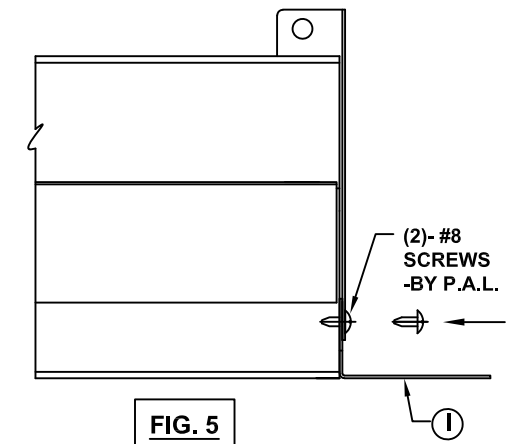

FIG. 5
ATTACH END TRIM (I) TO FIRST AND LAST (END OF ROW) FIXTURES AS SHOWN IN (FIG. 5). PLACE TRIM'S VERTICAL FLANGE BETWEEN INSIDE OF END PLATE AND EXTRUSION. SLIDE INTO PLACE AND USING THE (2) SCREWS SUPPLIED WITH ASSEMBLY ATTACH TRIM TO FIXTURE THROUGH HOLES IN ENDPLATE. INSTALL FIRST (END OF ROW) FIXTURE IN ROW OBSERVING MOUNTING INSTRUCTIONS FROM BACK PAGE. DO NOT MAKE FINAL ATTACHMENT OF SAFETY BRACKETS (C) TO GRID AT THIS POINT.